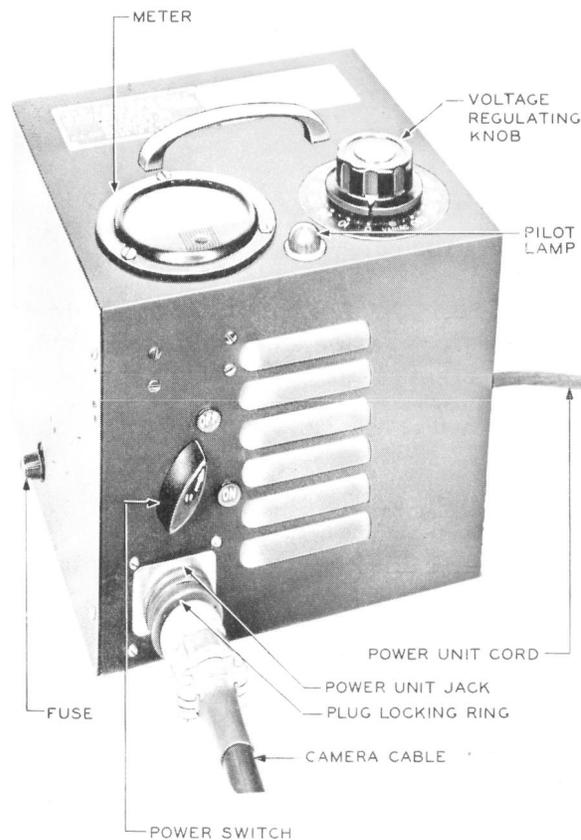

Fig. 3 – Power Unit
1.09 The KS-14594 power unit shown in Fig. 3 is provided to supply a momentary high dc voltage (approximately 450 volts) to operate the flash lamps in the camera hood. In order to insure reliable electrical connections, the camera cable (approximately 30 feet long) is connected to the power unit by a locking-type connector.
4.04 Camera and Power Unit Connections: Referring to Fig 3, make sure that the switch on the power unit is in the OFF position and that the voltage regulating knob is set to ZERO. Insert the plug on the camera cable into the jack on the power unit and manually tighten the plug locking ring. Insert the plug on the power unit cord into the proper 115-volt ac receptacle. After making these connections, turn the power unit switch to its ON position and check that the pilot lamp on the power unit lights. Set the volt-